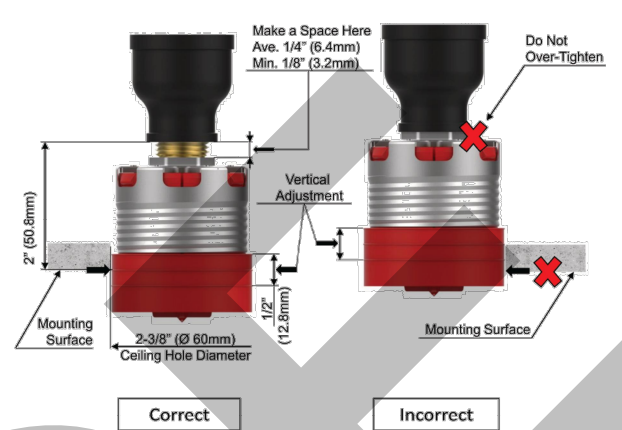

Figure 3: Installation
Step 1: The installation requirements for the sprinkler are as follows: to be installed only in the pendant position with the watertight perpendicular to the ceiling. Install the sprinkler fitting so that the distance from the face of the fitting to the mounting surface will be nominally 2 inches (50.8mm) as shown in Figure 3.
Step 3: If desired, the Protective Cap may also be used to locate the center of the clearance hole by gently pushing the ceiling material against the center point of the Protective Cap. Before the installation of the ceiling, the sprinkler installation can be started with a 2-3/8 inch (60mm) diameter clearance hole (Ref. Figure 3). Use the “Vertical Adjustment” indicator on the Protective Cap to check for proper installation height (Ref. Figure 3).